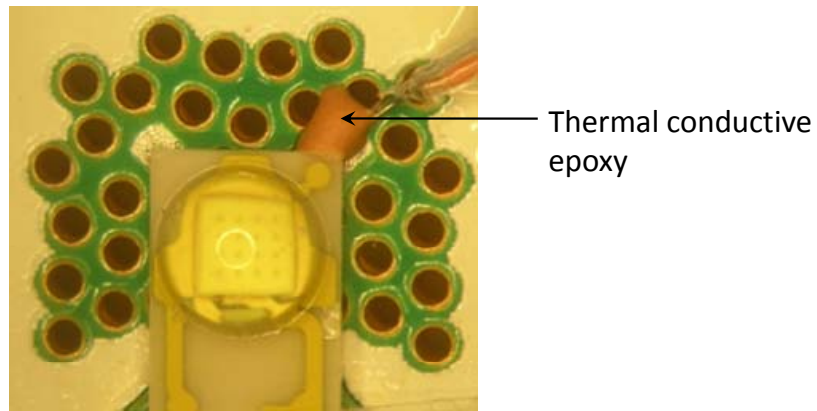

Figure 3. Thermal conductive epoxy on solderability indicator pad.
6. Drop a small amount of thermal conductive epoxy just enough to cover the thermocouple tip as shown in Figure 3.